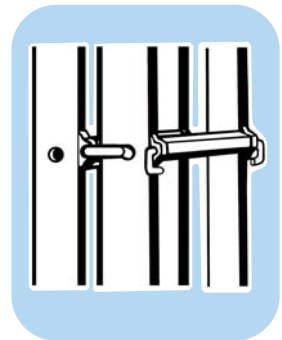

Figure F-4
4. Turn one outer ladder base 180 degrees and insert lock assemblies of one base into the adjacent holes of the opposite outer base (see figure F-4).